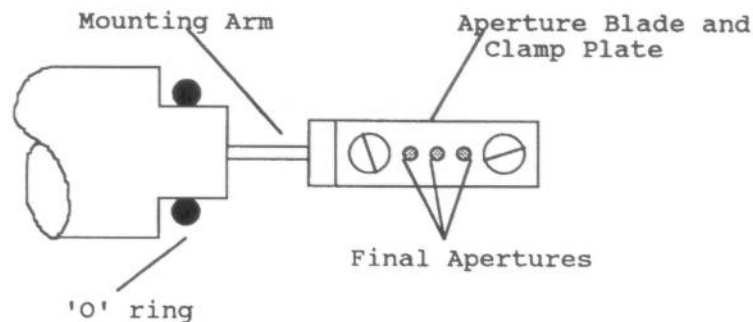

Figure 5.3 Final Aperture Changer
4. Remove the two screws holding the aperture clamp plate onto the aperture blade (see Figure 5.3). Lift off the clamp plate and remove the final apertures.